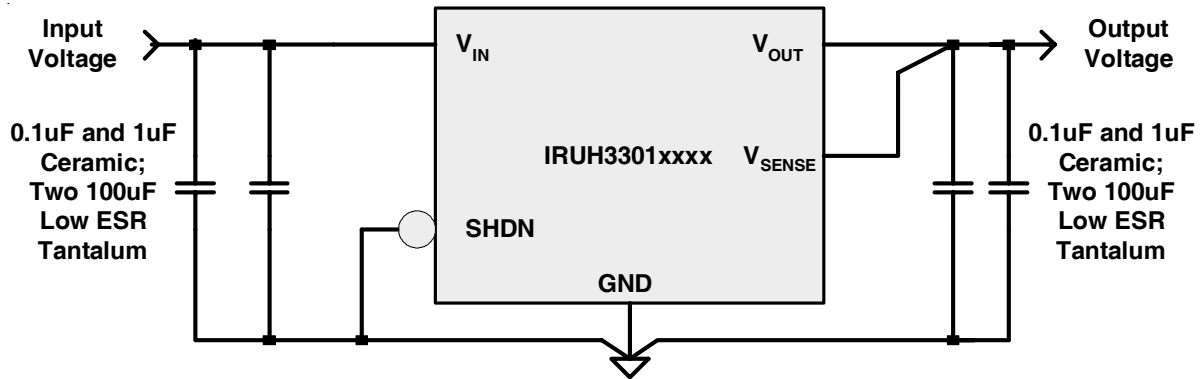

Fig. 1. Typical Regulator Circuit; Note the SHDN Pin is hardwired in the “ON” position.
- ① Connected as shown in Fig.1 and measured at the junction of V_{OUT} and V_{SENSE} Pins.
- ② Under normal closed-loop operation. Guaranteed by design. Not tested in production.